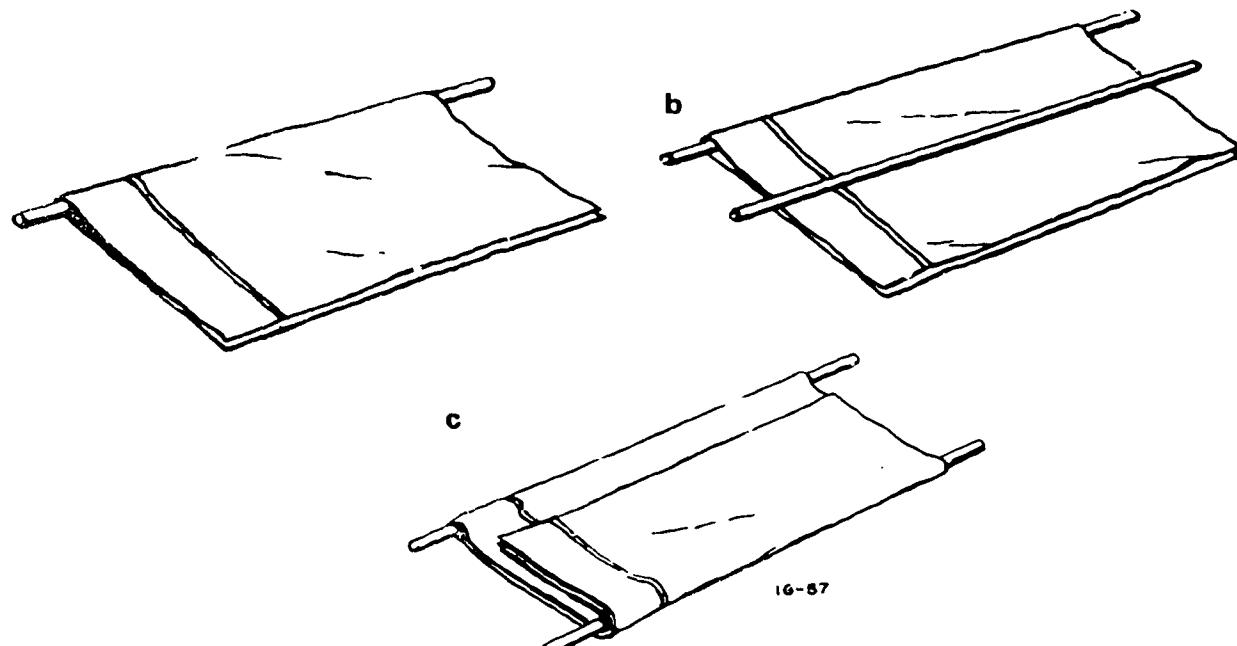

Figure 1-8. Pole and blanket litter.
a. Pole and blanket litter. A blanket, poncho, shelter half, tarpaulin, or other material can be used for the bed of a pole and blanket litter. The poles can be made from such objects as strong branches, tentpoles, rifles, etc. Figure 1-8 is a good example of this type of litter. It would be best not to transport back or neck fracture victims on this type of litter unless they are face down.